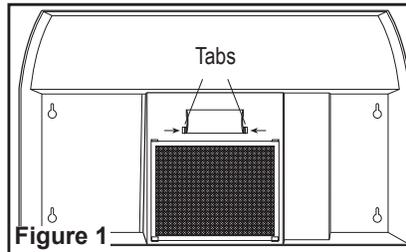

Figure 1
- Remove lamp cover by squeezing the two tabs together (Figure 1).
- Enlever le couvercle de lampe en pressant les deux onglets ensemble (Figure 1):